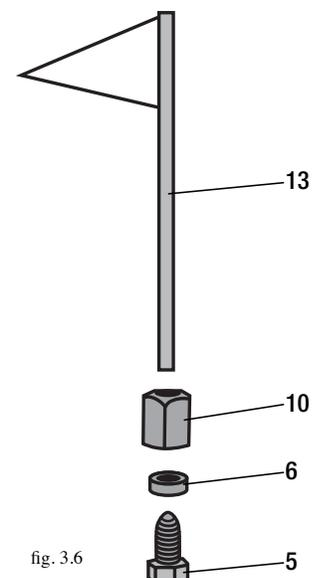

fig. 3.6
F. Safety Flag Installation (see figure 3.6)
- 1) Insert the safety flag (13) into the head of the hollow nut (10).
- 2) Insert the bolt (5) through the bracket on the frame.
- 3) Place nut (6) on bolt (5) and tighten.
- 4) Insert flag (13) into bolt (5) and tighten nut (10).